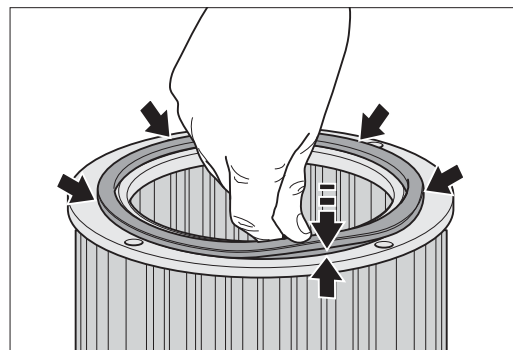

Fig. 29 Make sure the seal sits properly in the filter before replacing it in the dust separator.
- 1 Before you insert the new filter, make sure the rubber seals are in the groove on the filter element (Fig. 29).